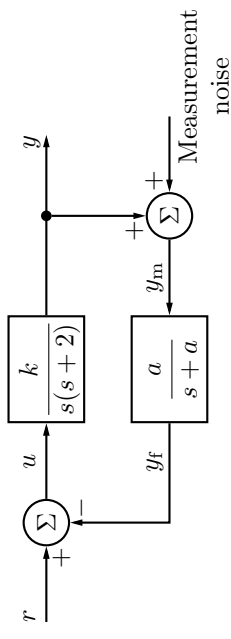

Figure 3.11a
- Consider the system in Figure 3.11a. In a realistic situation what you really measure is not  $y(t)$  but a signal  $y_m(t)$  which is the sum of  $y(t)$  and measurement noise. To avoid that the control is based on noisy measurements one uses  $y_f(t)$  instead of  $y_m(t)$ . The signal  $y_f(t)$  is  $y_m(t)$  filtered through the low pass filter